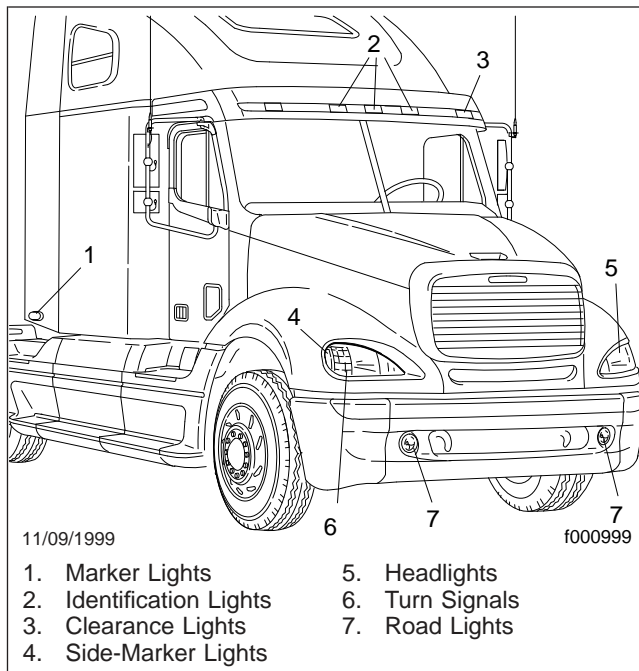

Fig. 11.8, Exterior Lights
11. Check the operation of all exterior lights. See Fig. 11.8.